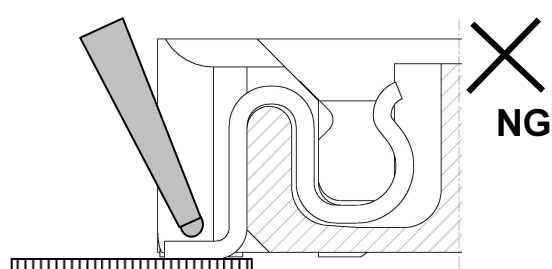

Fig14
2. コテ先をタイン部に当て負荷をかけますとコンタクト変形の原因となります。(Fig14)
2. If the soldering iron point is applied to a TAIN part and load is applied, it will become the cause of contact modification. (Fig14)